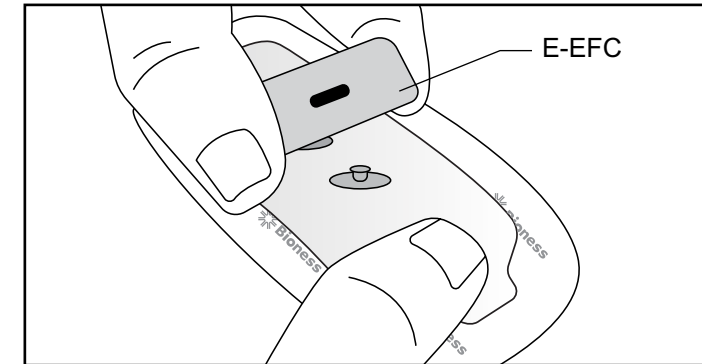

Figure 7-22: Removing the E-EFC from the Gel Electrode.
2. Hold the E-EFC with your thumb and index finger and gently pull the Gel Electrode away from the E-EFC to unsnap it. See Figure 7-22